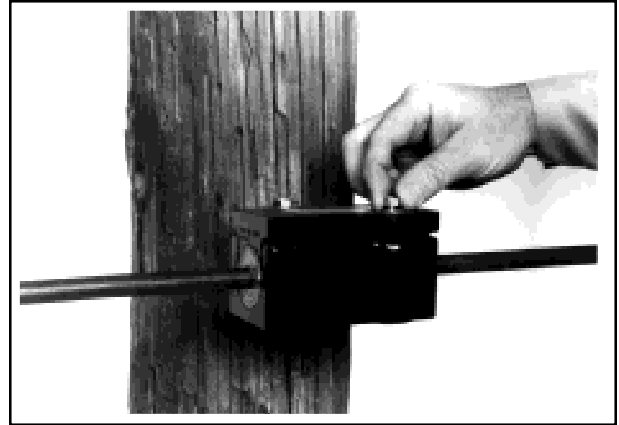

FIGURE 7
5.01 After aligning the keeper, carefully begin to tighten the captured bolts by hand, one at a time, into the body. (Figure 7)